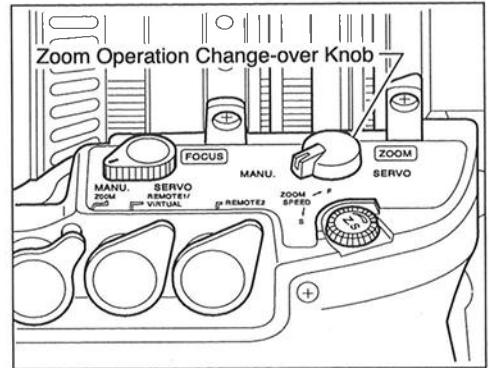

Fig. 2-1
- Set the zoom operation change-over knob at the bottom of the drive unit to the MANU. position. (See Fig. 2-1)